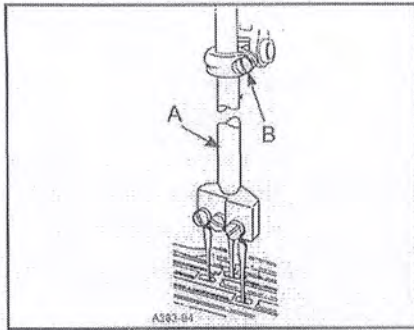

FIG. 4
Insert a new set of needles, type and size specified, with screw (B, Fig. 4) slightly loosened, lower needle bar (A) and turn needle head as required until the needles are centered in the throat plate needle hole slots. Tighten screw (B) torque to 19-21 in. lbs. (2.1-2.4 Nm).